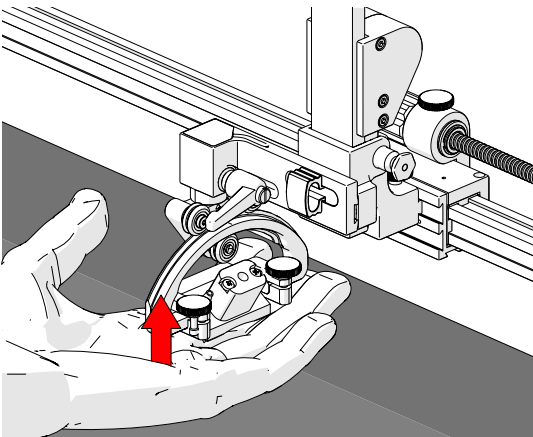

Fig. 231 - Lift probe holder
1. Slightly lift the probe holder (Fig. 231).
4. Slightly lift the probe holder (Fig. 231).